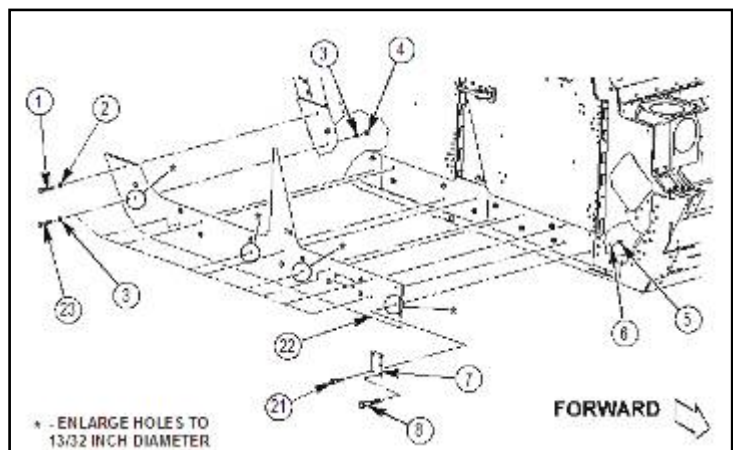

Figure 5a.
1. Remove three capscrews (8) from forward mounting holes in A-pillar to rocker gap plate (7) as shown in figure 5a. Discard capscrews (8).
2. Remove two locknuts (5), washers (6), capscrews (21), and A-pillar to rocker gap plate (7) as shown in figure 5a. Retain gap plate (7) and discard all fasteners.
3. Remove capscrew (1) and washer (2) as shown in figure 5a. Discard all fasteners.
4. Remove nine locknuts (4), eighteen washers (3), nine capscrews (23), and right side rocker panel aluminum overlay (22) as shown in figure 5a. Retain right side rocker panel aluminum overlay (22) and discard all fasteners.
5. Enlarge four mounting holes in right side rocker panel aluminum overlay (22) to 13/32 inch using a regular drill bit. Refer to figure 5a.